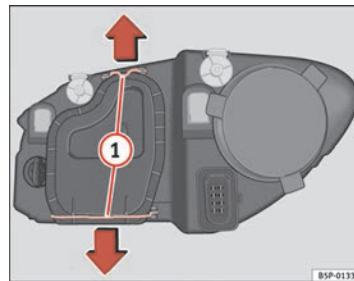

Fig. 188 Dipped beam headlights
- Remove the loops ⇒ page 275, fig. 188 ① in the direction of the arrow and remove the cover.